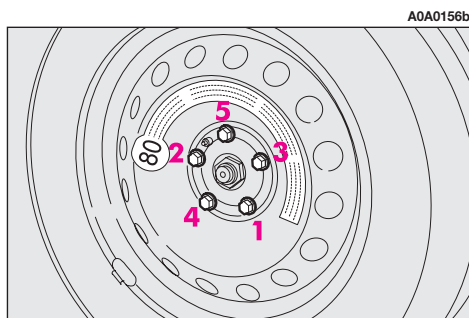

fig. 8
— Using the wrench provided, fully tighten the bolts in the sequence shown in **fig. 8**.
- Using the wrench provided, fully tighten the bolts in the sequence shown previously for the compact spare wheel **fig. 8**.
- Using the wrench provided, tighten the bolts in the sequence shown previously for the compact spare wheel **fig. 8**.